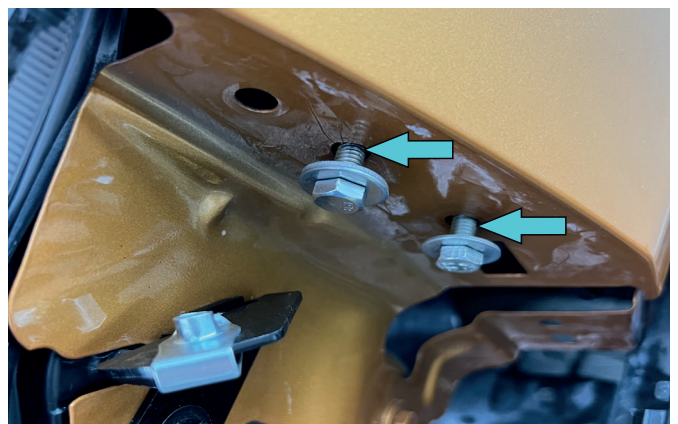

Fig.35
35. Loosen bolts M6x20 with washers 6 (item C, I) into insert nuts M6 with 2 nuts (item 7) (fig.35).